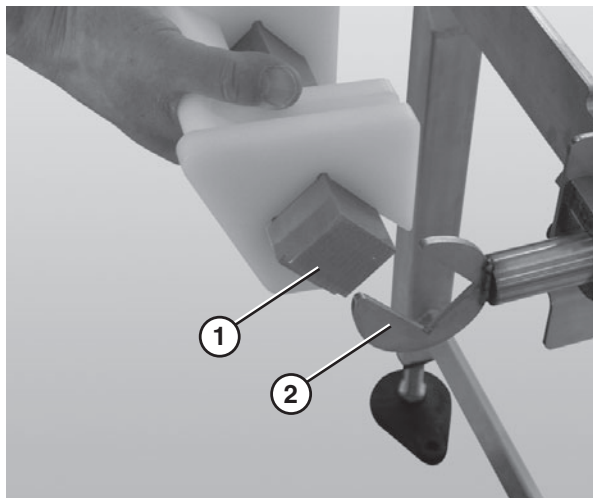

Figure 21
- Attach the nose bar transfer post (**Figure 21, item 1**) to the nose bar idler shaft hands (**Figure 21, item 2**).